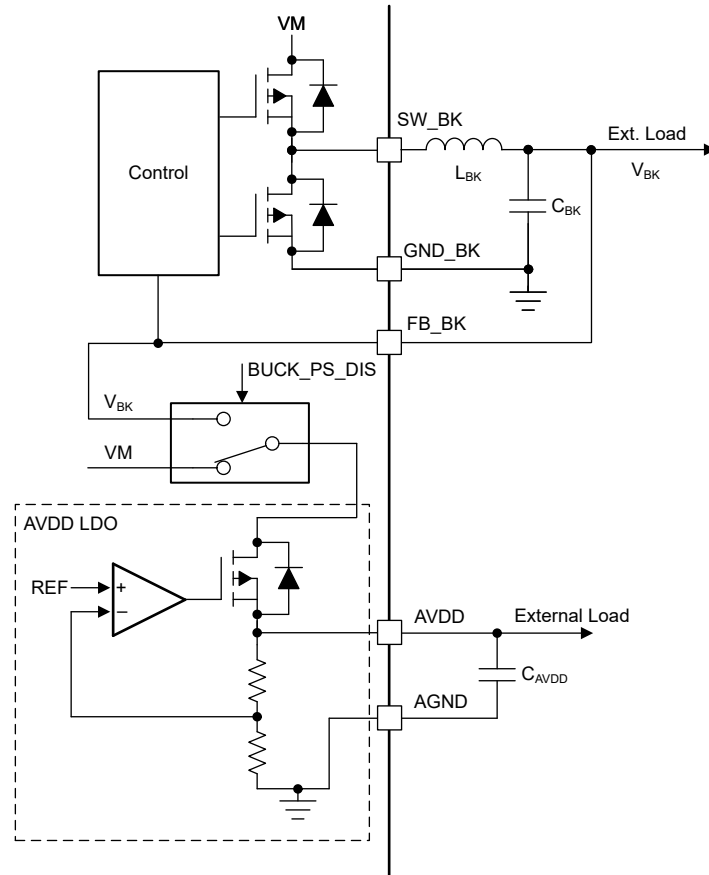

Figure 8-6. AVDD Power Sequencing from Mixed Mode Buck Regulator
The AVDD LDO has an option of using the power supply from mixed mode buck regulator to reduce the device power dissipation. The power sequencing mode allows on-the-fly changeover of AVDD LDO input from DC mains (VM) to buck output (V_{BK}) as shown in Figure 8-6. This sequencing can be configured through the BUCK_PS_DIS bit. Power sequencing is supported only when buck output voltage is set to 5-V or 5.7-V.